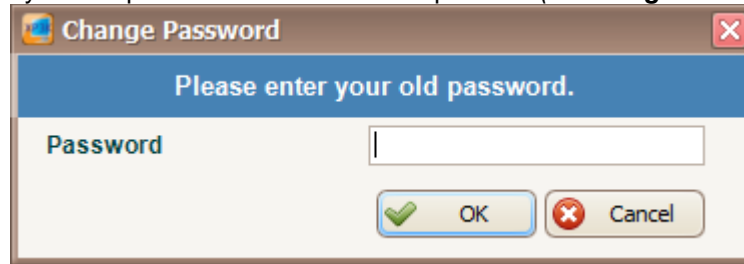

Figure 270 - Change Password
2. You need to enter your old password and click OK to proceed (Refer **Figure 270**).